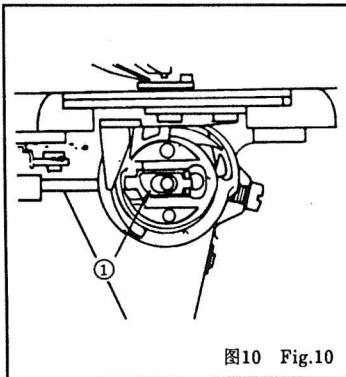

图10 Fig.10
8. 梭心套的取出和安装 Fig.10
8. INSTALLATION/REMOVAL OF BOBBIN CASE Fig.10